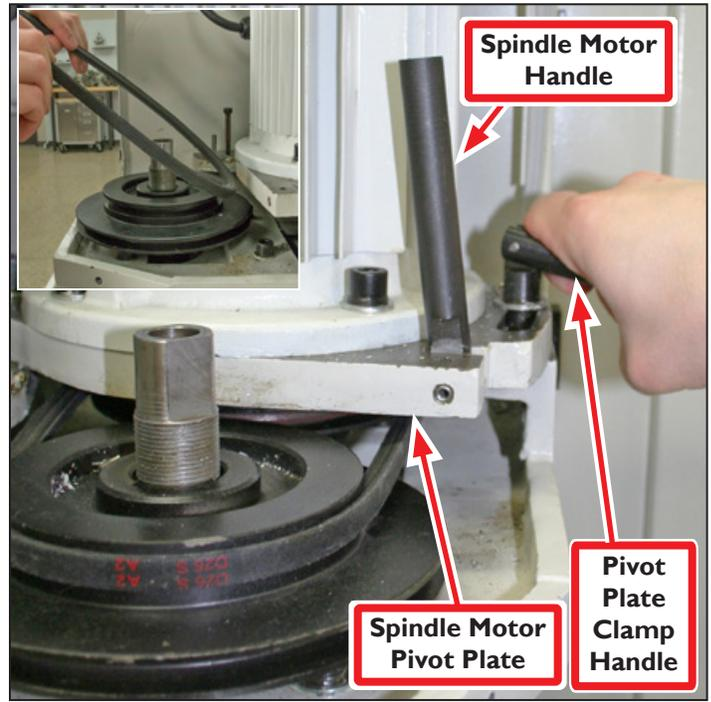

Figure 9
13. Loosen Pivot Plate Clamp Handle as shown in **Figure 9**. Swing Spindle Motor Handle down and move Spindle Motor Pivot Plate forward to remove spindle belt (see **Figure 9 inset**).